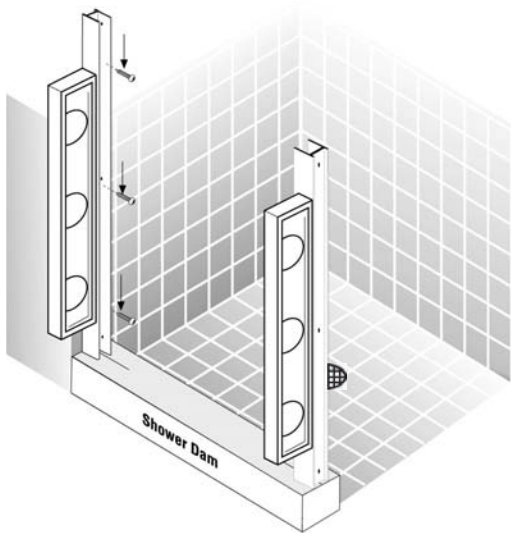

Figure 2
- C. After determining which jambs will be used, place the Wall Jamb (#9) at the centerline mark on the shower dam on the hinge side wall (See Figure 2). Use the level to align the Wall Jamb (#9) straight up and down. Use the pencil tip in each of the pre-drilled holes in the Wall Jamb (#9) to mark the wall. Set the Wall Jamb (#9) aside.